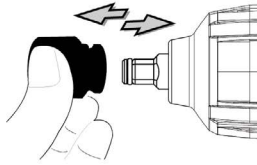

Fig. 2 Installing socket on anvil.
1. To install the socket, push the socket onto the anvil as far as it will go. (See Fig. 2)